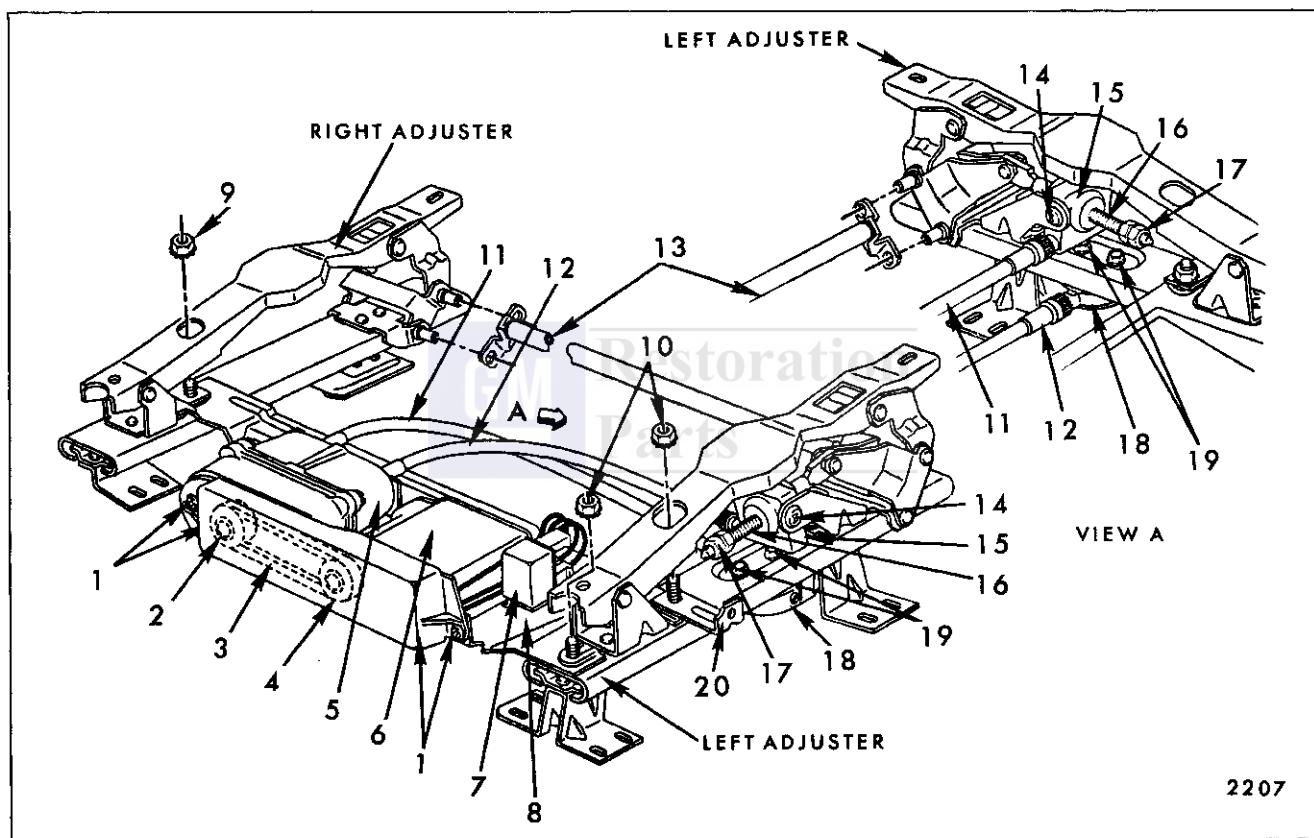

Fig. 15-46—Four-Way Bucket Seat Adjusters
- Remove nuts securing motor and transmission support to adjuster being removed (Fig. 15-46).
- At front of seat remove motor and transmission drive belt cover attaching screws (Fig. 15-46) and remove cover.
- Remove drive belt (Fig. 15-46) from both motor and transmission drive pulleys. Pulleys may be removed from either motor or transmission by pulling pulleys off their respective shafts.
3. Remove motor and transmission drive belt cover and remove drive belt (Fig. 15-46).
3. Using a clutch type screwdriver or other suitable tool, remove shoulder screws securing linkage to vertical gearnut (Fig. 15-46).
4. Remove jackscrew "down" stop from jackscrew (Fig. 15-46).
3. As a bench operation, remove jackscrew-to-adjuster linkage attaching rivet and remove jackscrew from adjuster assembly (Fig. 15-46).
2. Using a clutch type screwdriver or other suitable tool, remove shoulder screws securing linkage to vertical gearnut (Fig. 15-46).
5. Remove screws securing horizontal actuator assembly to adjuster lower track; then, remove actuator from adjuster assembly (Fig. 15-46).